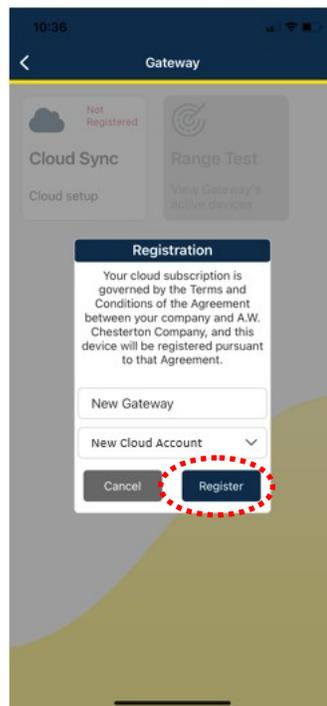

Figure 29
- Select **Register** (see figure 29). The Gateway will turn on its Blue LED during the registration process.